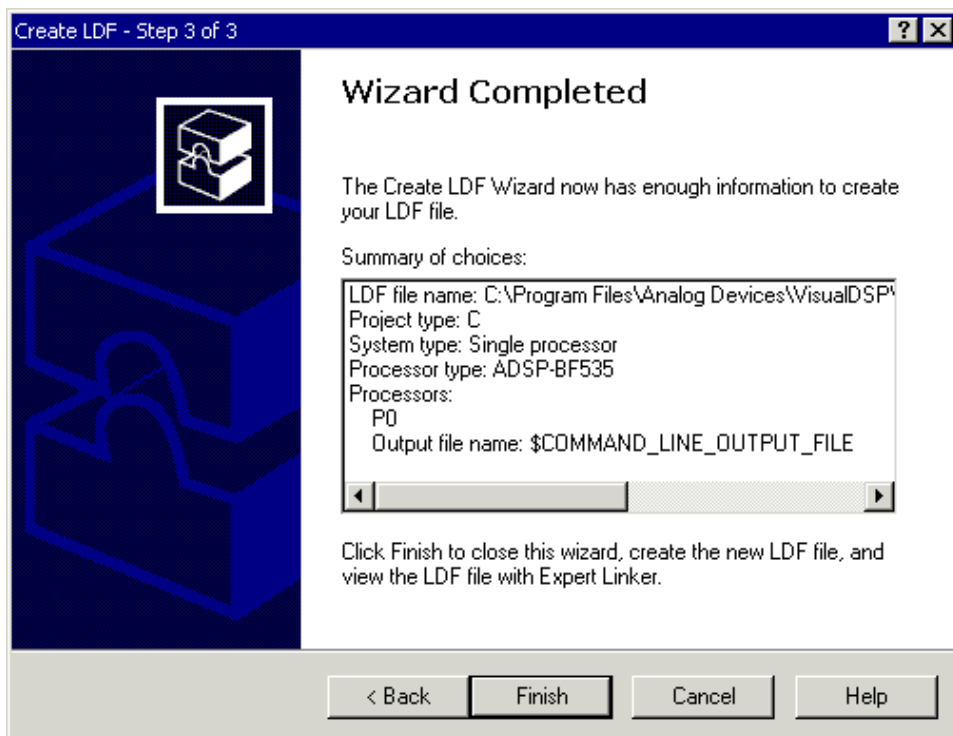

Figure 2-17. Create LDF – Step 3 of 3 Page
4. Accept the default values and click **Next** to display the **Create LDF – Step 3 of 3** page, shown in Figure 2-17.